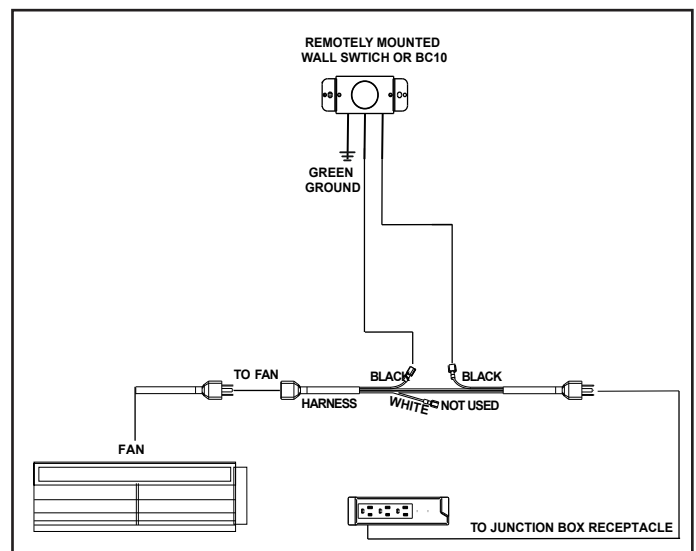

Figure 9.4 GFK21B or GFK4B Fan Kit and Remotely Mounted Switch or BC10
- The wires to the remotely mounted switch or BC10 must plug into the black female terminals on harness. See Figure 9.4.